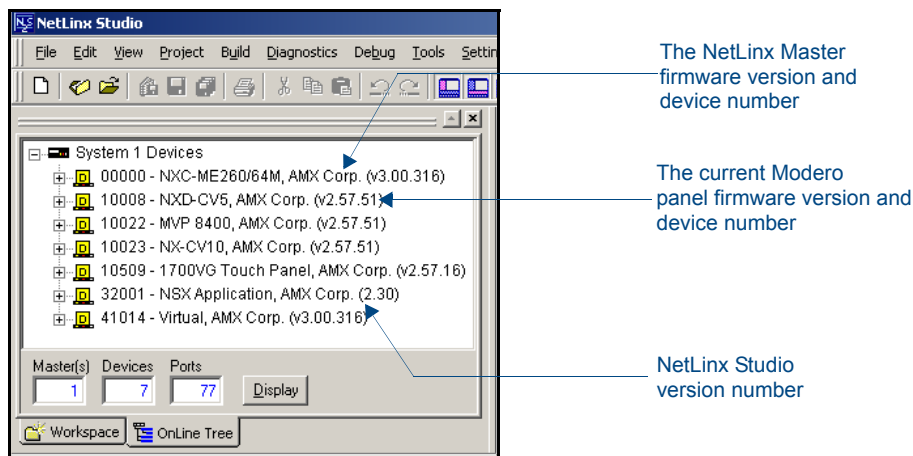

FIG. 51 NetLink Workspace window (showing connected Modero panel)
3. After the Communication Verification dialog window verifies active communication between the PC and the Master, verify the panel appears in the **OnLine Tree** tab of the Workspace window (FIG. 51). *The default Modero panel value is 10001.*